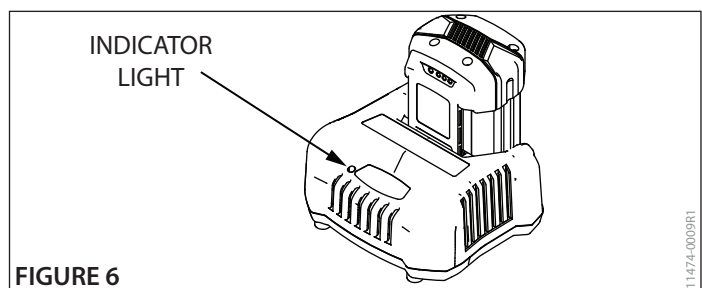

FIGURE 6
5. The charge indicator light should blink green. **SEE FIGURE 6**